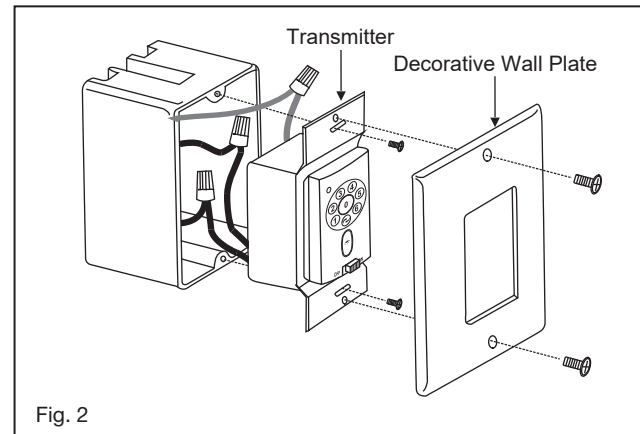

Fig. 2
- 2 Make wire connections from the fan to the receiver unit. For this step use the bundle of 5 wires on the receiver. (Fig. 2)
- 2 Raise the decorative ring up against the mounting bracket, the four supports inside the decorative ring should be placed against the four slots on the mounting bracket, twist the decorative ring clockwise until snug (Fig. 2).
- 2 While holding the LED light kit under your fan, make the polarize plug connections: (Fig. 2)
- 4 Install the wall transmitter on the existing wall outlet box using the screws provided. Attached the wall plate with the mounting screws to finish the installation. (Fig. 2)
- 7** Signal light (Fig. 2)